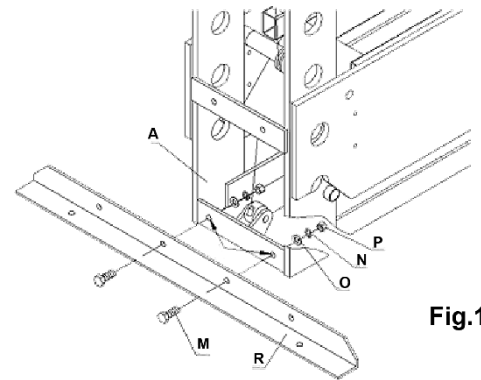

Fig.1
11.1.1 Disassemble the hex bolt M12\*30(M), washerM12(O), spring washerM12(N), hex nut M12(P) from part A of the press frame body. Then assemble the base to the body frame by the above parts. (refer to Fig 1)